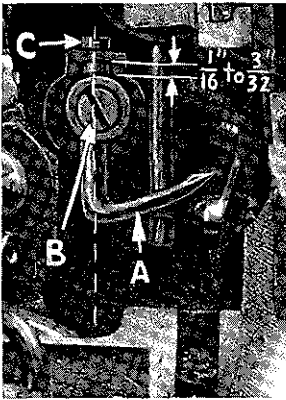

Fig. 7A
Insert upper looper (A, Fig. 7A) in its holder. Screw (B) holds upper looper in its holder, and permits it to be pushed in or out or turned around its shank. Insert upper looper holder into upper looper shaft, if it is not already in place. Screw (C, Fig. 7A) on clamp collar holds upper looper in the shaft, and allows holder to be rotated or adjusted laterally. When upper looper is at the right end of its stroke, upper looper holder should be set to position upper looper shank back of vertical (Fig. 7A). Top end of upper looper shank should extend  $1/16$  to  $3/32$  inch above the upper looper holder (Fig. 7A). Be sure there is clearance between heel of looper and casting.
Now check setting between upper looper and needle. If needle rubs the back of upper looper, pull looper out of its holder slightly and rotate looper a short distance counterclockwise looking from left end of machine. Reset to maintain dimensions of Figs. 7A, 8A and 9A.